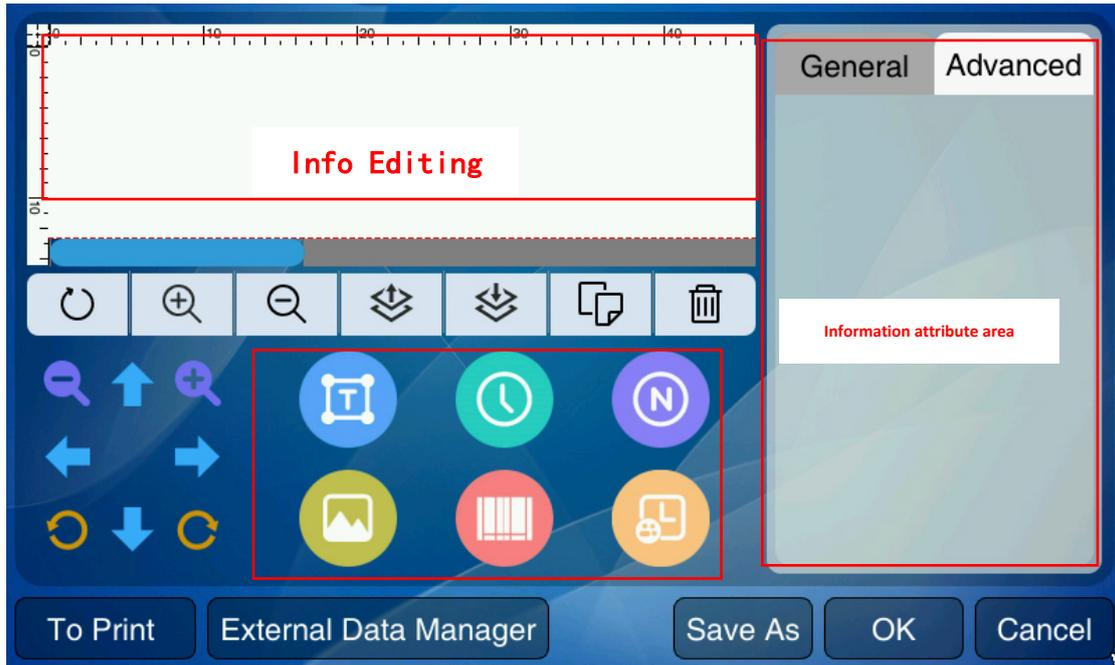

Figure 5-5 File editing interface
1、 Follow the two methods described in section 5.1 to bring the system to the edit file interface. As shown in Figure 5-5.